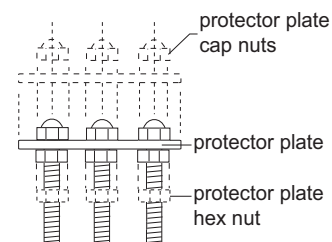

Fig. 13
- J.** Remove cap nuts and withdraw the installation tool. Be careful to not damage cable. Replace protector plate and cap nuts. (Fig. 13)